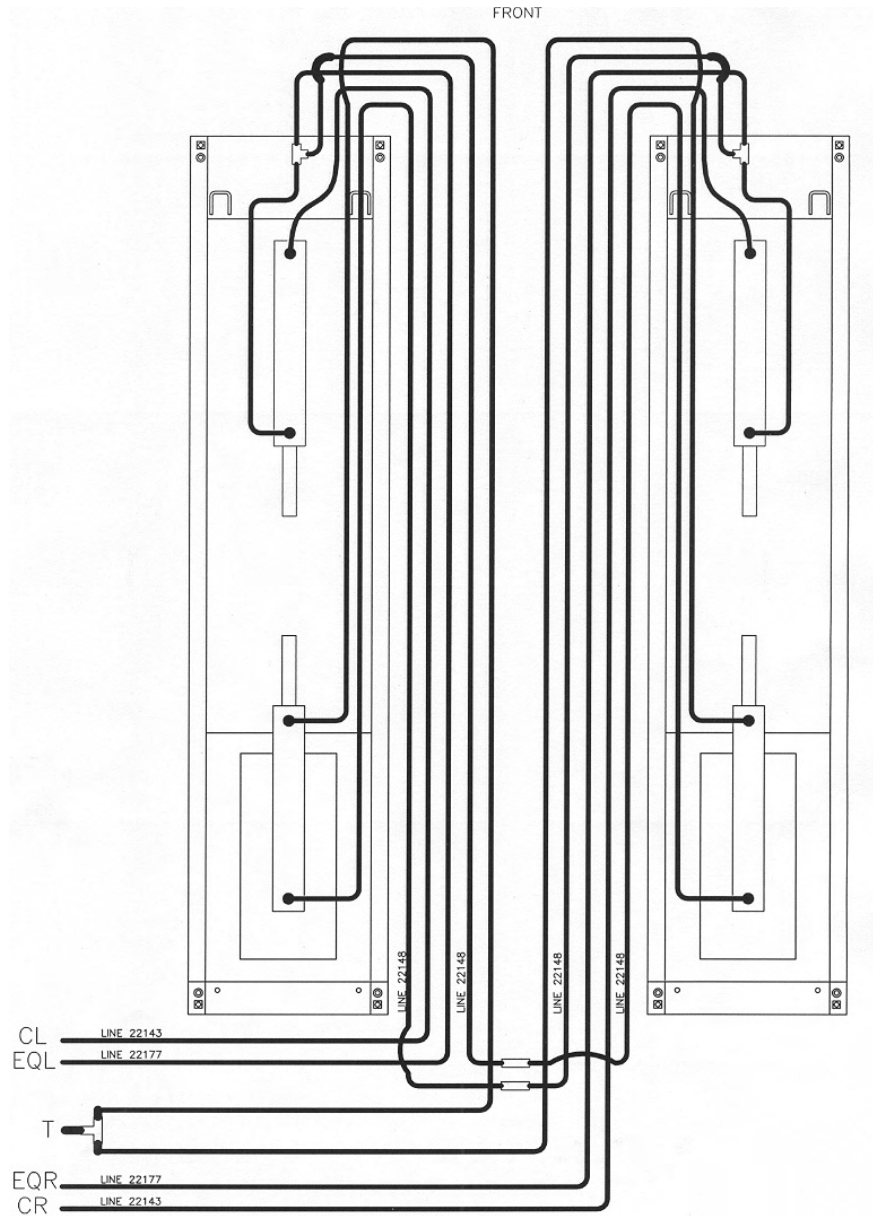

Figure 4 – Hydraulic Connections
2. Unravel the hoses and wiring from each runway and connect the hydraulic lines as shown in **Figure 4**. Do not kink hydraulic hoses or air lines.